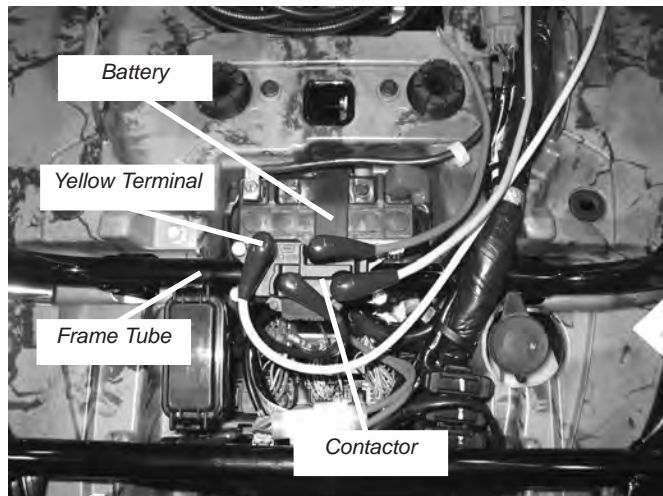

Figure 26 Contactor Location
- The contactor is located under the panel behind the seat, figure 26.
- Position the contactor with the yellow and red terminals closest to the battery, figure 26. Fasten the contactor to the frame tube using the supplied 1/4-20 x 1" x 1 3/4" u-bolts, 1/4" flat washers, and 1/4-20 lock nuts. Do not tighten at this time.